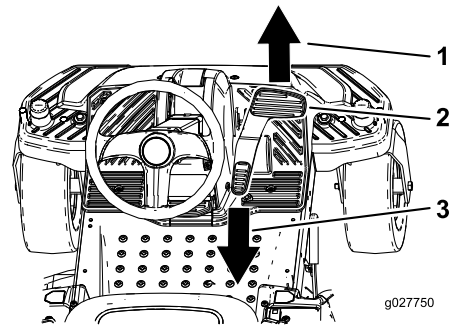

Figure 14
2. Place your foot onto the traction-control pedal and slowly press the top of the pedal to go forward, or press on the bottom of the pedal to move backward (Figure 14).